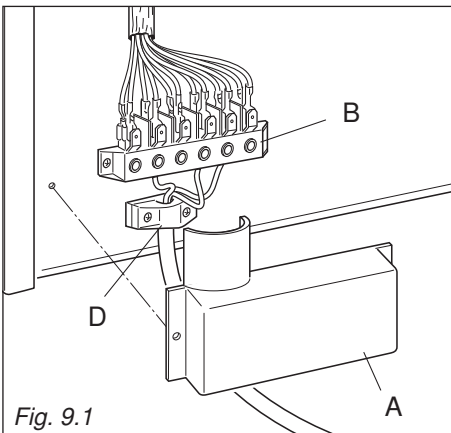

Fig. 9.1
- Position the U bolts onto terminal block “B” (fig. 9.1) according to the diagram in figs. 9.2, 9.3.